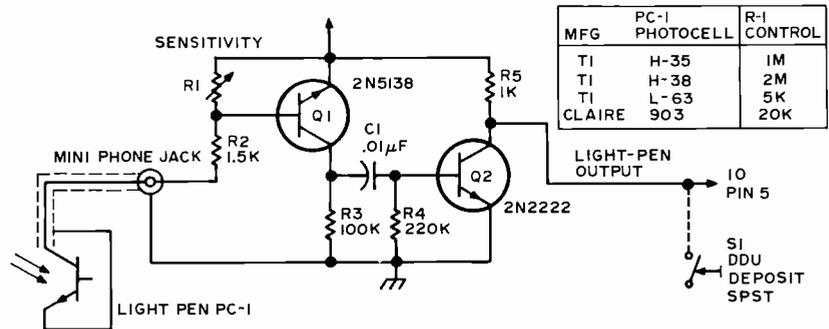
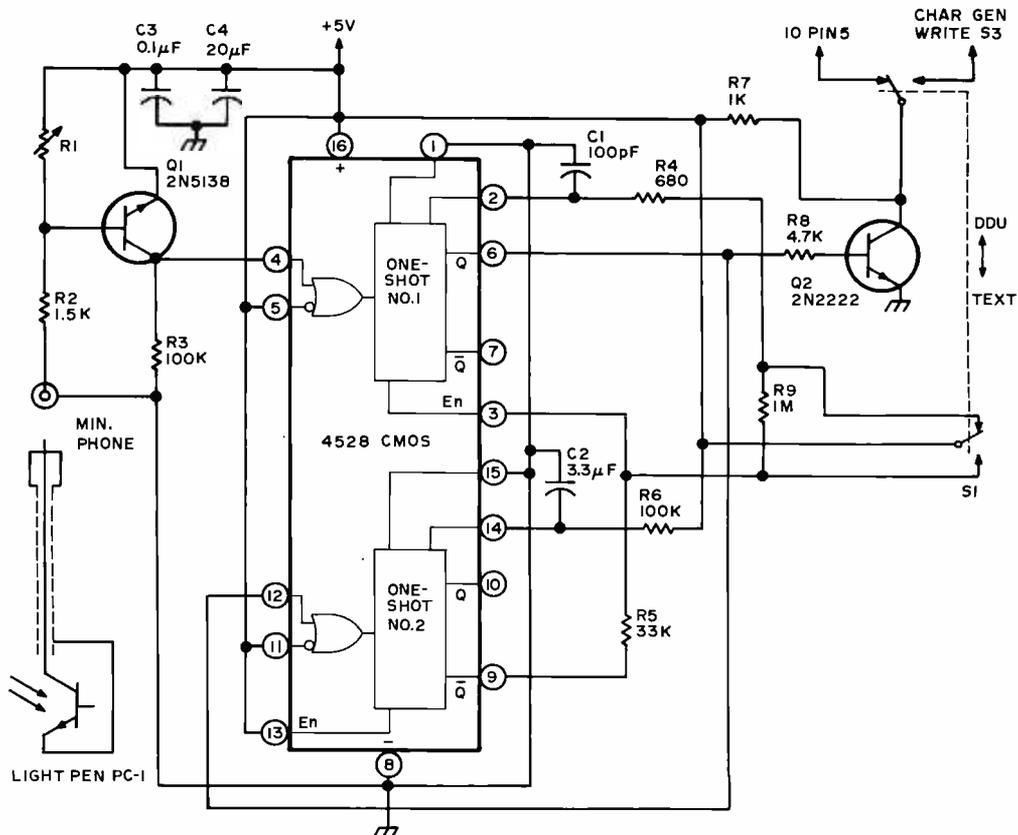

Figure 1: The simple version of the light pen can be constructed according to this schematic. All resistors 1/4 W.
Figure 3: By adding a pair of oneshots to the circuit, the ability to draw pictures is improved through a short data lockout period which avoids smearing.
Figure 1 illustrates the simple light pen circuit. With proper adjustment of the sensitivity control (and possibly the brightness control), the photocell in the tip of the light pen will sense the moment in time when a dot is written at the particular location of the light pen. At this instant, the photocell will conduct, biasing the PNP transistor which causes a short pulse to be conducted through capacitor C1 to the base of the NPN transistor Q2. If the pulse is greater than .6 V, this transistor will be driven into saturation, and the light pen output will fall to .3 V. This output line is connected to pin 5 of the oscilloscope graphics unit which writes a 1 or a 0 bit (dot or no dot) at precisely the instant that the dot position touched by the pen was addressed.
The circuits just described will probably suffice if you wish to use the light pen only for occasional correction of data. If you plan extensive and detailed work, such as cartooning or statistical data entry, a modification of the circuit will allow you to tailor the light pen's response to your own particular needs and system speed. The circuit shown in figure 3 is similar to the one shown in figure 1. However, it includes two oneshot multivibrators (contained in one CMOS DIP). The first one produces a constant amplitude pulse of approximately 200 nsec duration which is sufficient to bring about the storage of a 1 or 0 bit in most versions of the 2102 memory (ICs 11 to 14 in the oscilloscope graphics interface). The second one delays the generation of another write command for .25 sec, giving the operator sufficient time to withdraw the pen from the screen or move to a new location, before a double or multiple dot can be drawn. Once the two pulses have been timed in accordance with a given system speed and the operator's writing speed, it becomes very easy to draw detailed images with the light pen.
In figure 3 resistor R4 and capacitor C1 control the length of the write pulse, and resistor R5 and capacitor C2 control the wait time. For the 4528 CMOS oneshot, the time of the pulse (T) measured in microseconds is a function of resistance (R) and capacitance (C) measured in ohms and microfarads, respectively, as follows:
The circuit shown in figure 3 also includes a switch and connections for using the light pen with the author's text display and editing system. Exact details for this connection are not given here, as they will differ with the type and construction of the text display system. I found, however, that the shift register type memories commonly used in these systems require a much longer write pulse than is necessary for the 2102 memories. It was also desired to eliminate the holdoff circuit (second oneshot) for this application. These changes are accomplished with switch S1 and resistors R9 and R5. If these features are not desired, it is recommended that R9 be replaced by a wire, R4 changed to 4.7 kΩ and C1 to 20 pF.
As is shown in the table accompanying figure 1, several different types of photocells are suitable for use in the light pen. The Texas Instrument (TI) type H-35 or H-38 is a very small device with a built in lens. These were originally designed for use in punched tape and card readers, thus the small size. Their size, sensitivity, and restricted field of view make them ideal for this application. Their high impedance, however, makes them somewhat slow for this application, particularly at low brightness levels. The slow response time limits their use at the faster scan rates, and complicates the smearing mentioned earlier. Another device, the L-63 type which is available from Radio Shack (276-140 infrared detector), was found to be considerably faster. Being a much larger device, however, it has a larger field of view, and much of its speed advantage is lost to optical smearing. Models of both photocell types were built and tested by me, with only slight preference for the H-35. With some careful masking, and possibly the addition of a small, short focal length lens (e.g., Edmund Scientific number 12050 cylinder lens, or a small drop of clear epoxy), this photocell will probably perform better than the H-35 for this application. The Claire types 903 and 903-L were tried with only fair results.
If you are using the simple circuit of figure 1, the parts can be assembled on a small turret terminal board available at most electronic supply houses. This assembly is shown in photo 6. The circuit of figure 3 can be assembled in the same manner with the addition of a 16 pin DIP socket. R4, R5, C1 and C2 should be mounted in such a manner that they can be changed easily (Cambion 601-1512 component clips are useful here).
Photo 7: Using the improved circuit of figure 3 reduces much of the over-writing of multiple dots which occurred using the original circuit of figure 1. This is an enhance mode picture.
Photo 8: This illustrates a cartoon drawn using the erase mode of operation with the improved circuit of figure 3.